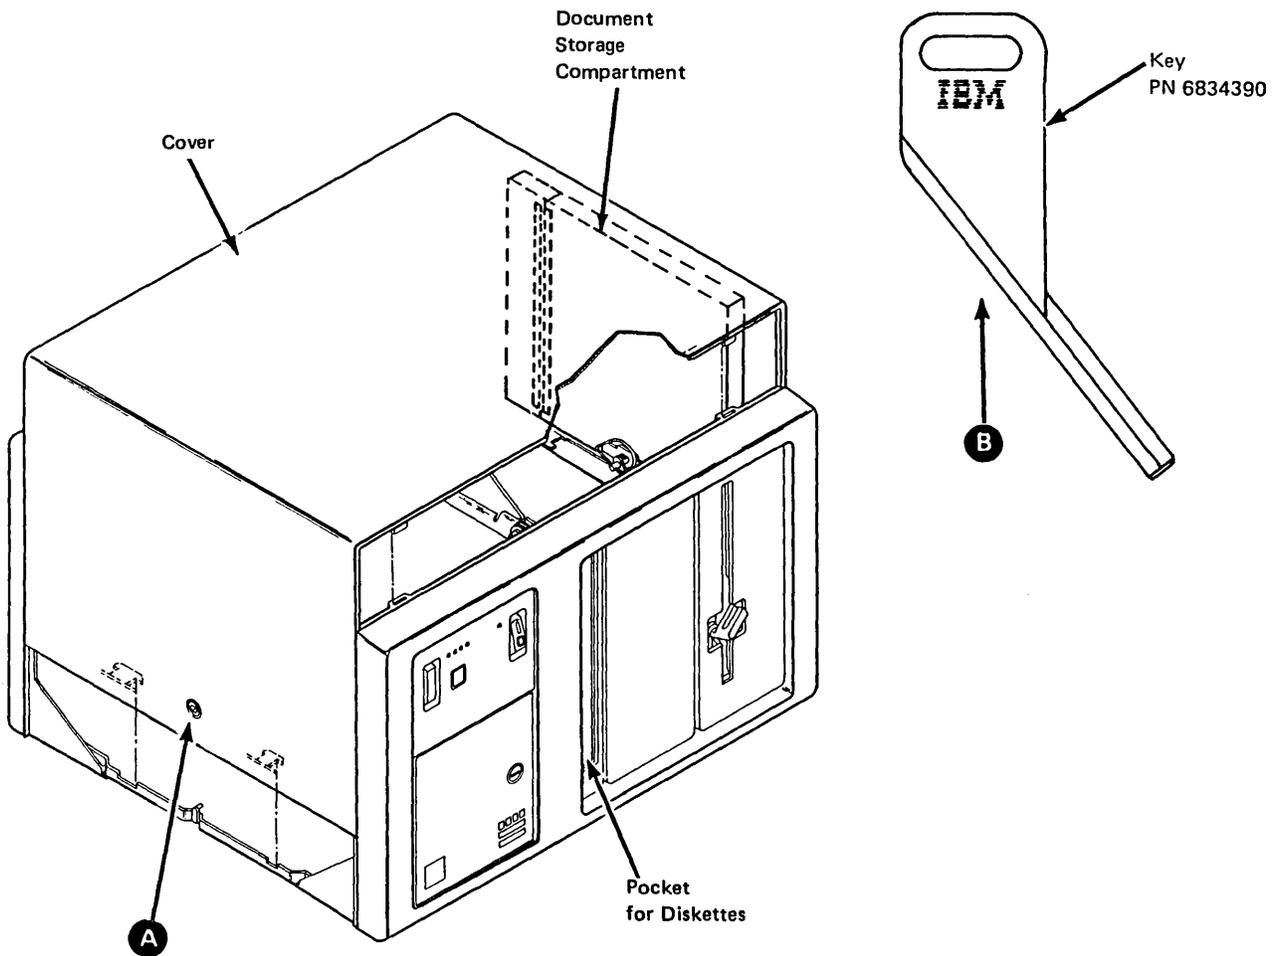

Figure 4-1. Machine Access, Cover
4.1 Machine Access – Cover Removal/CE Manuals (Figure 4-1)